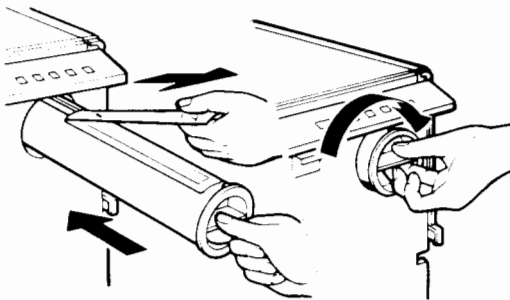

Figure 3.5 Fitting the toner cartridge
5. Gently push the cartridge into the printer and keep pulling the seal away from the cartridge as it goes in. As the seal comes away from the cartridge altogether the cartridge should be almost all the way into the printer (figure 3.5).